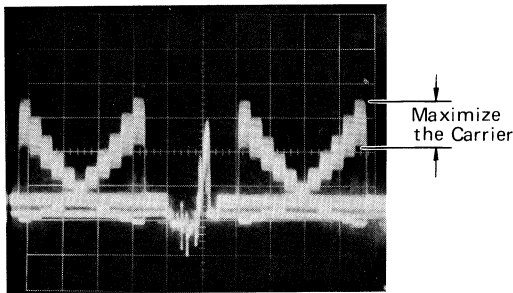

Fig. 4-2-25
- Adjust FOCUS VR15 so that the carrier (5MHz) on the prevideo signal becomes maximum. (Fig. 4-2-25)